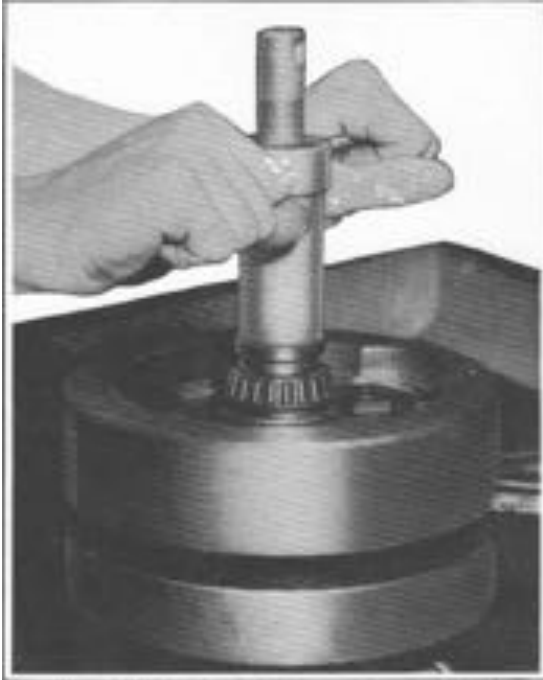

Figure 3-44. Pressing Bearing on Sprocket Shaft
Position flywheel assembly, sprocket shaft up, in vise with copper jaws. Press bearing (15) on sprocket shaft using Bearing Installing Tool, Part No. 97225-55. Sprocket shaft spacer 24036-66 may be needed with bearing installing tool as shown in figure 3-44. Press the parts on using sprocket shaft spacer as a pressing tool only. Turn tool screw onto sprocket shaft thread and tighten securely. Remove tool and slip the bearing, small end up, over sprocket shaft, starting it squarely. Install the small bearing spacer (10) and tool sleeve and press bearing against flange on flywheel
using the tool as shown in figure 3-44. Slip crankcase half, with outer race parts installed, over shaft. Slip bearing over tool screw, small end down toward bearing inner spacer. Position tool sleeve and turn on driver. Turn driver down against sleeve pressing bearings tightly together as shown in figure 3-45. Bearings must be tight against the bearing spacer to provide correct bearing clearance.